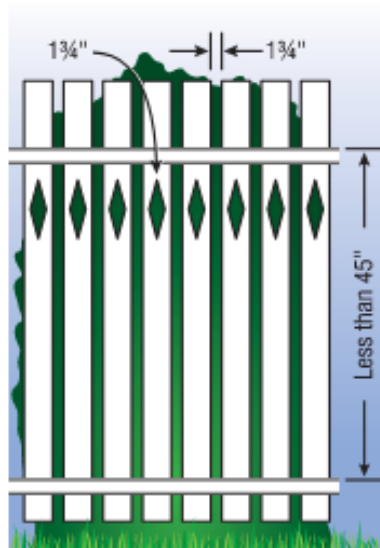

Figure 5
6. Where the barrier is composed of **horizontal and vertical** members and the distance between the bottom and top of horizontal members is less than 45 inches, the horizontal members should be located on the swimming on the swimming pool side of the fence. (figure 5)